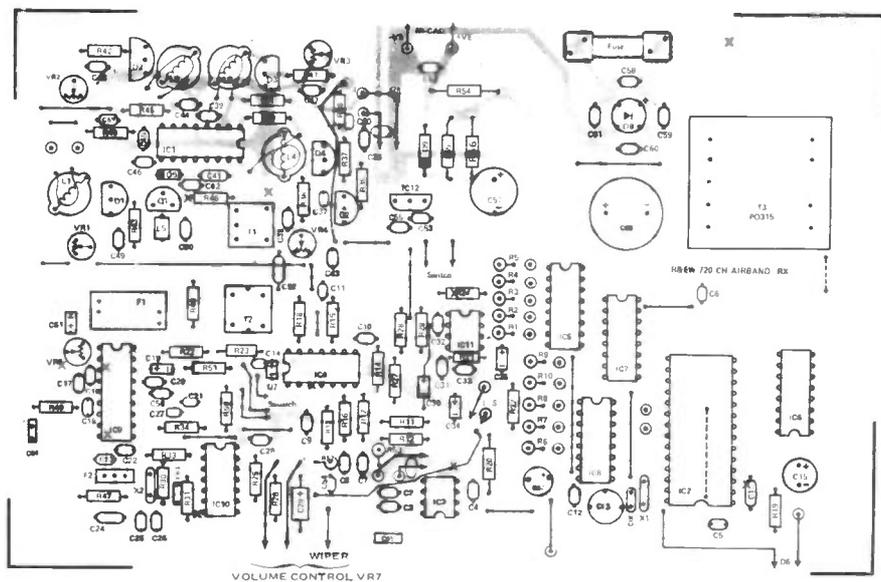

Figure 5: Component overlay for the 720 Channel Airband Receiver showing positions through board links in blue (Sept '82, Oct '82).
- 2) Add through board links as shown in *Figure 5* (locations brought in blue).